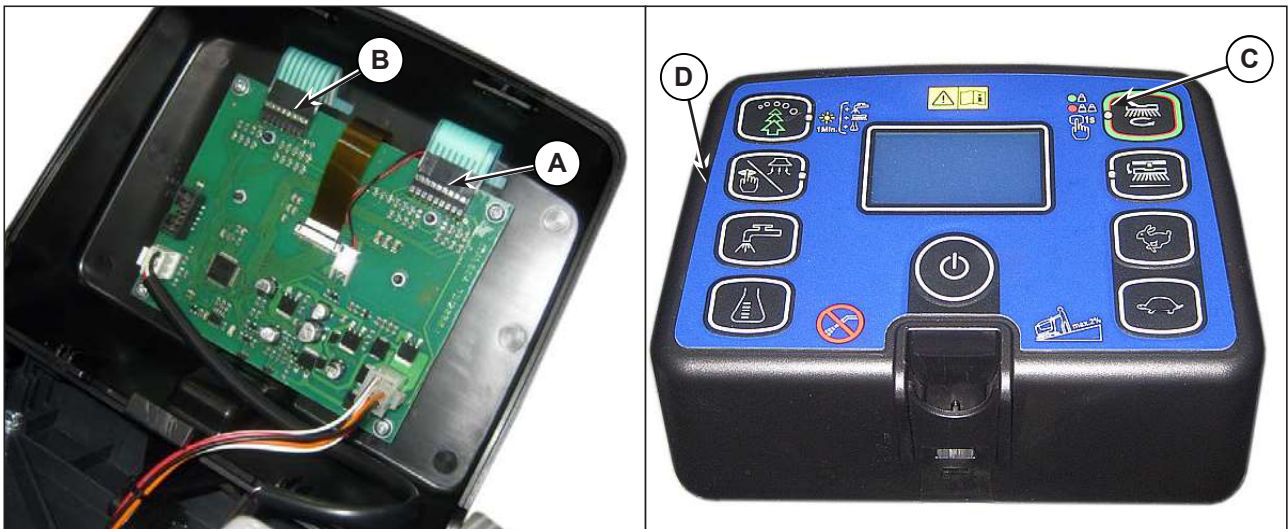

Figure 17:
9. Disconnect the following connections sequentially (Figure 17):
- (A) Flat connection J2.
- (B) Flat connection J3.
10. Carefully raise the User interface controller (C), detaching it from the cover (D).
- Before fastening the User interface controller (C), ensure that the flat connections (A) and (B) are correctly run through the slots in the cover (D), then glue the User interface controller to the cover itself.